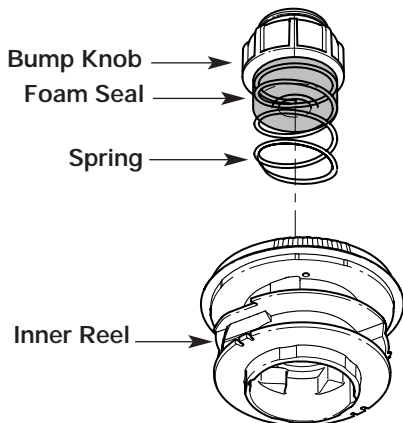

Fig. 52
- Turn the bump knob counterclockwise and remove the bump knob, spring and foam seal (Fig. 52).
- Hold the inner reel in place and install the bump knob, spring and foam seal. Press down and turn the bump knob clockwise. Grasp the ends and pull firmly to release the line from the holding slots in the inner reel (Fig. 52).
- Pull out the bump knob, spring and foam seal (Fig. 52).
7. Place the bump knob, spring and foam seal into the inner reel (Fig. 52).